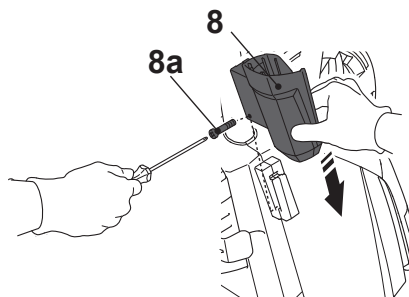

Fig. 1
1. Slide the spray gun holder (8) to the product and secure it with the screw (8a) (Fig. 1).